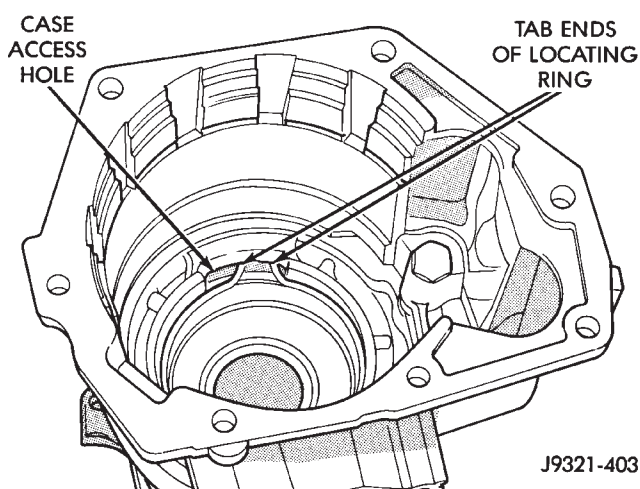

Fig. 59 Correct Rear Bearing Locating Ring Position
(6) Verify that tab ends of rear bearing locating ring extend into access hole in gear case (Fig. 59).